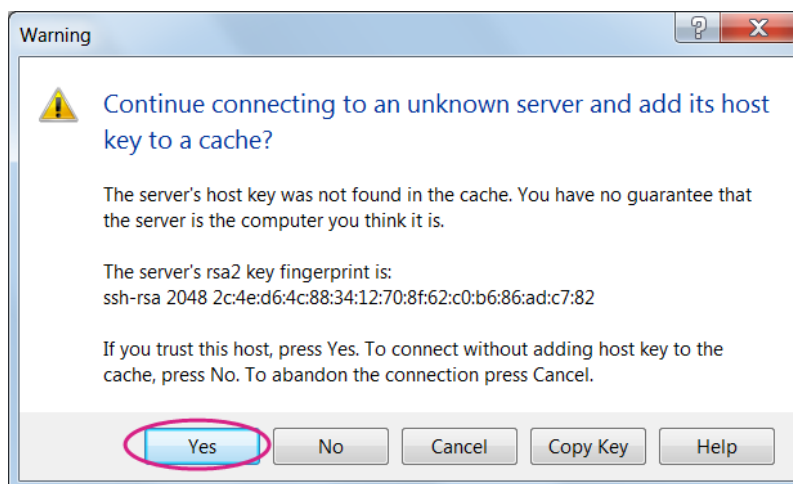

Figure 33 SCP Security Warning
- a) To use GUI, start WinSCP and click **Yes** when you see a warning window as shown in Figure 33.